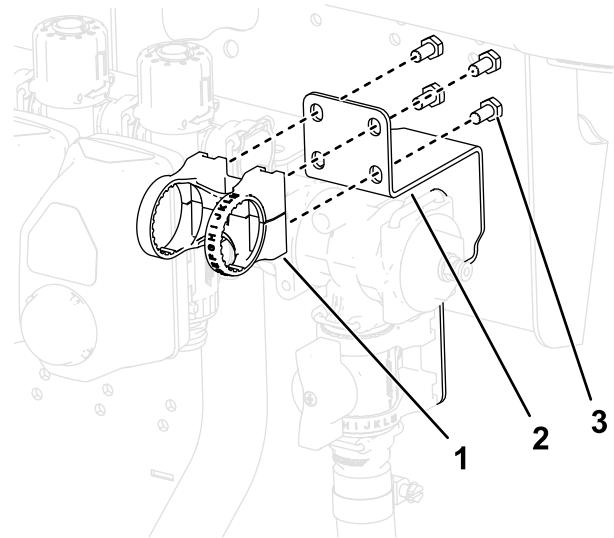

Figure 42
14. Install the control-valve assembly onto the top of the control valve bracket using 4 screws (M6) as shown in Figure 42.